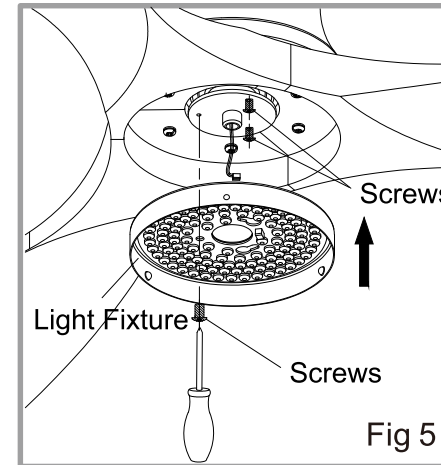

Fig 5
3. Then Select "Fan(WI-FI)" (Fig 4) and Type in your WIFI code & password (Fig 5)
(Fig 5)
- 1) Remove three screw from the motor round piece. (fig 5)
- 2) Attach the lightkit to the fan, and tighten all the three screws firmly. (fig 5)